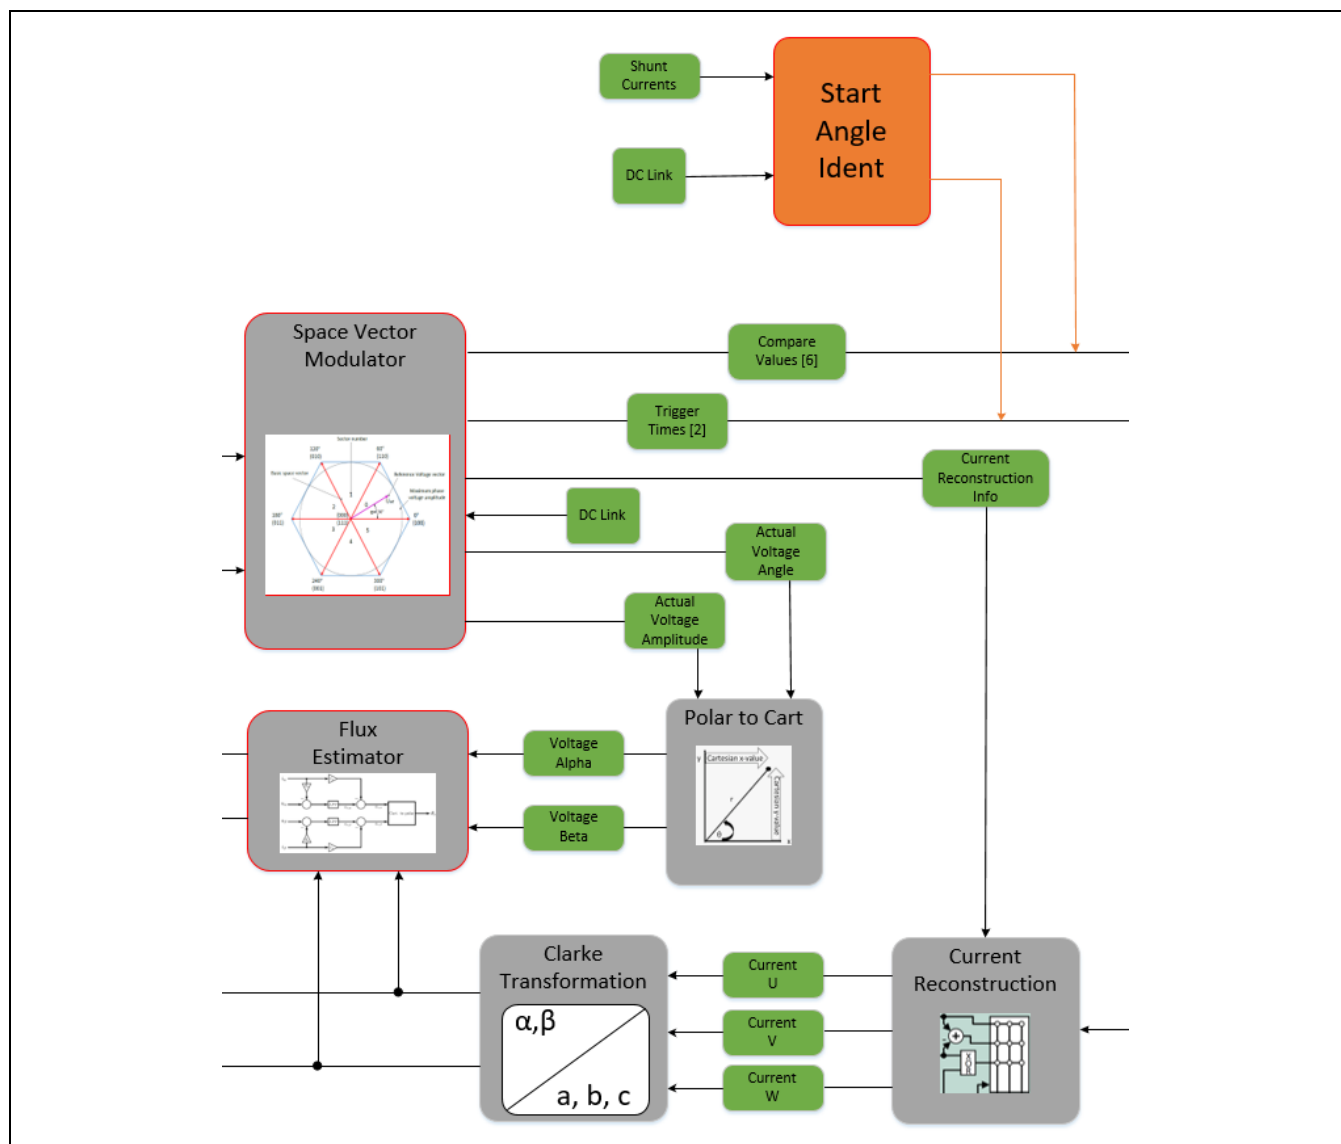

Figure 16 SVM and Flux Estimator blocks
6. The SVM block (Figure 16) calculates the opening times of the switches for the voltage source inverter that is connected to the stator of a three-phase BLDC motor. The compare values and trigger times (output signals of the SVM block) are fed into the pattern generator. The current reconstruction information is used by the homonymous module in order to obtain the phase currents of the motor, calculated by the ADC measurement block. The currents are then converted into alpha/beta domain by the Clarke transformation.
7. The flux estimator (Figure 16) calculates the position and the speed of the rotor, taking as inputs the angle and amplitude voltage from the SVM (after a polar to Cartesian conversion) and the alpha/beta currents from the Clarke transformation.